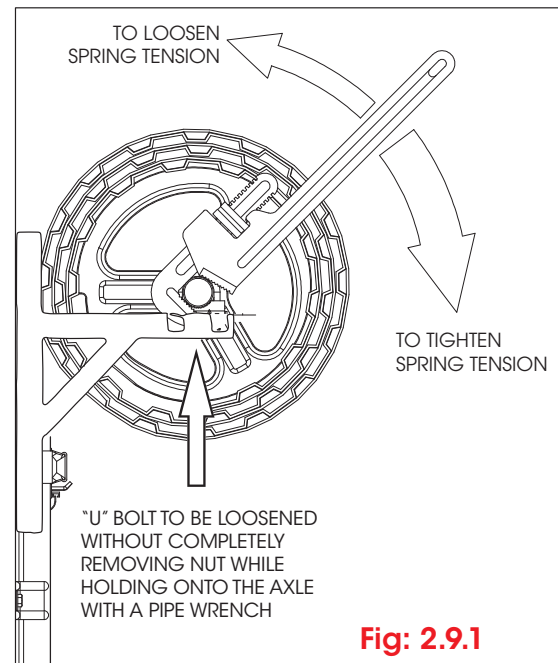

Fig: 2.9.1
- Rotate the axle in the required direction (**Fig 2.9.1**).